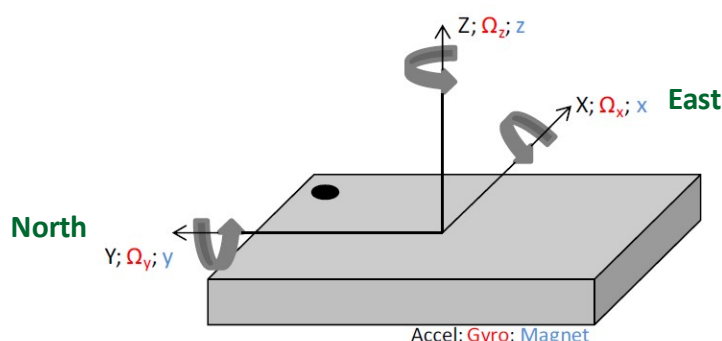

Figure 1 BNO055 coordinate definition
The user can switch between Windows or the Android orientation format. By default however, the sensor axes orientation of the sensor is of Android format as shown in Figure 1. The Android rotation vector definition can be found at http://developer.android.com/guide/topics/sensors/sensors_motion.html
- Heading: rotation around the Z axis ($0^\circ \leq \text{heading} < 360^\circ$). 0° = North, 90° = East, 180° = South, 270° = West. The heading value increases when you rotate around the Z axis clockwise from top view of Figure 1. Pitch: rotation around the X axis ($-180^\circ \leq \text{pitch} \leq 180^\circ$) with positive values increasing when the Z axis moves towards the Y axis.